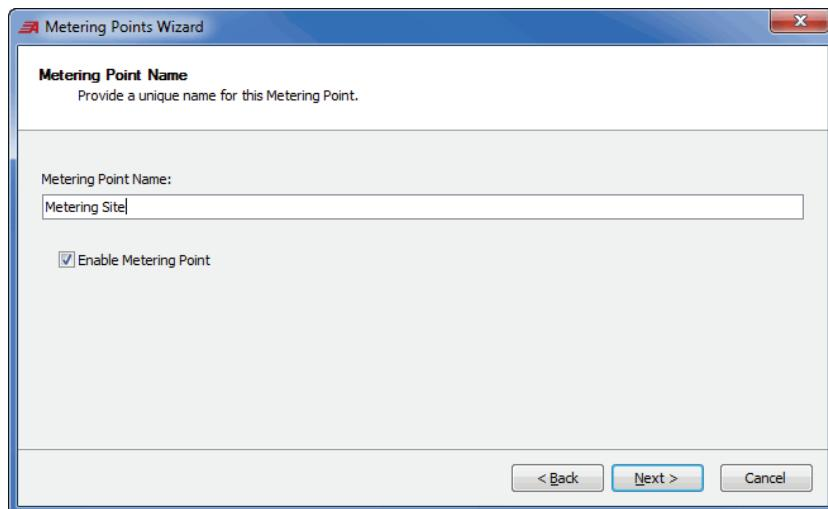

Figure 182 Metering Point Name Window
Step 3. Enter **Metering Site** in the **Metering Point Name** field. Ensure that the **Enable Metering Point** check box is selected as shown in *Figure 182*.